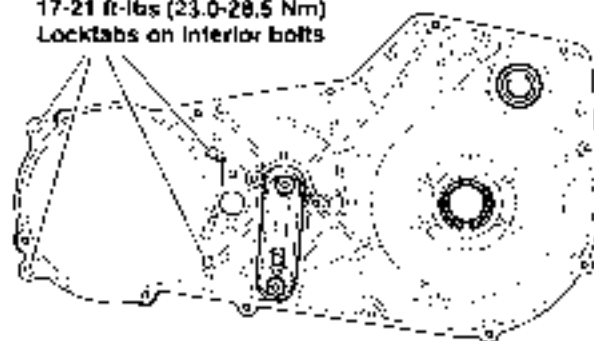

Figure 6-3. Primary-to-Engine Mounting Bolts
5. See Figure 6-3. Bend the lockplate tabs back (where necessary) and remove primary-to-engine mounting bolts.
3. See Figure 6-3. Attach the inner primary-to-the-engine using the original bolts and washers. Tighten bolts to 17-21 ft-lbs (23.0-28.5 Nm). Bend up the locktabs of the inner primary-to-engine bolts.